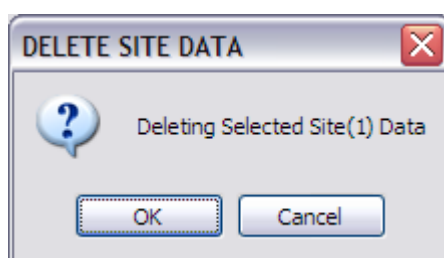

Fig.5.5.5-1 Warning Dialog
- When selecting the site number that you want to delete in Site Number list box and clicking [Delete Site] button ③, a warning dialog will be displayed as shown in Fig.5.5.5-1.